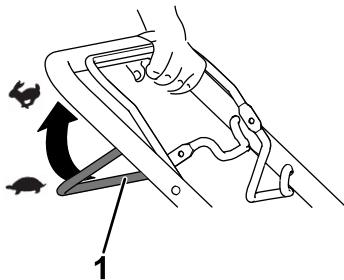

Figure 13
- To engage the self-propel drive, pull the self-propel-drive bar to the handle and hold it (Figure 13).